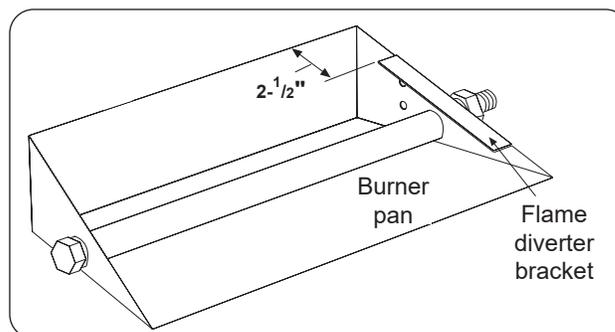

Fig. 6-3
1. Place the flame diverter bracket over the side edge of the burner pan, near the location the safety control system pilot bracket will be attached. It should be placed **approximately $2\frac{1}{2}$ "** from the rear wall of the burner pan (see Fig. 6-3).